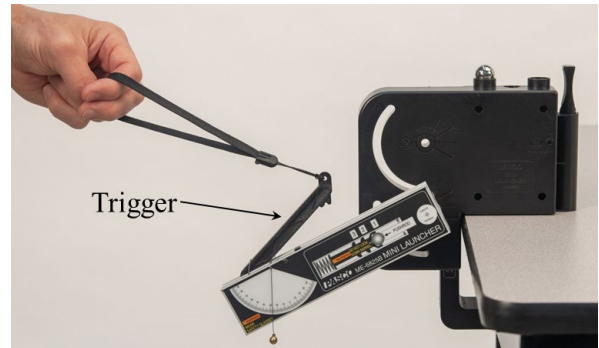

Figure 6: Launching Ball
3. Place the ball in the opening at the top of the launcher, and use the loading rod (stored in the holder at the front of the launcher bracket—see Figure 6) to push the ball in and so depress the plunger one "click" to the short range setting.
4. To make your results more consistent when launching the ball, always pull with a quick short pulse when pulling the thick cord (attached to the trigger—see Figure 6). Do NOT pull slowly. Always make sure that everyone is clear before firing!